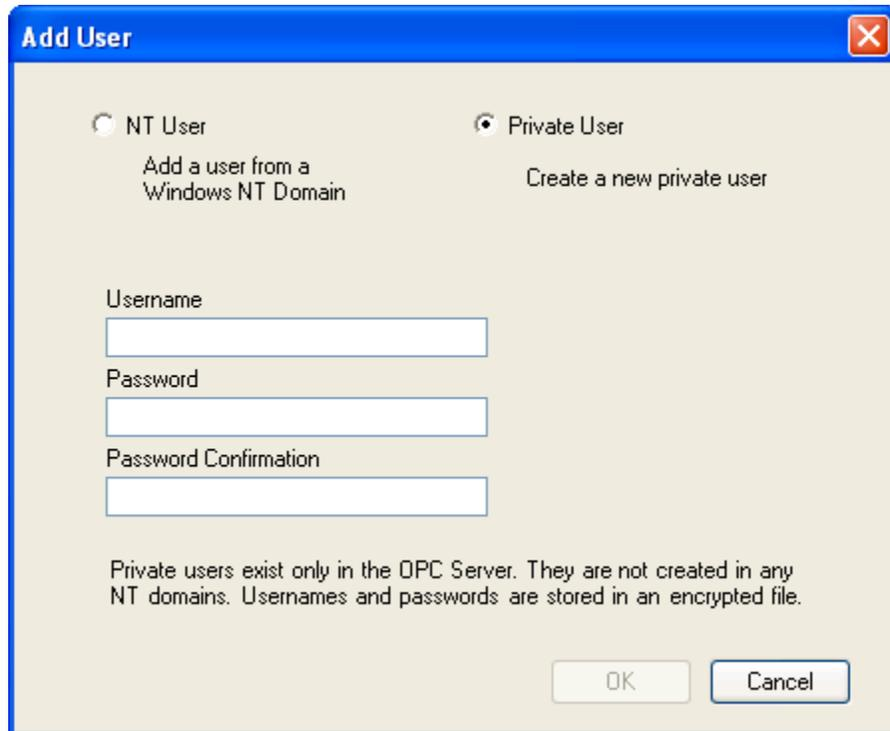

Figure 47 - Add User Window (Private)
3. Select the **Private User** option button (Figure 47).